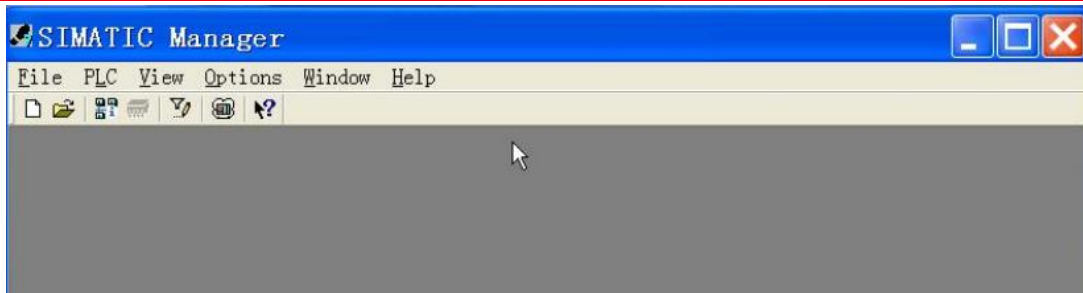

Figure 1
(1) Copy the GSD file with the TEC sensor to the C:\Program Files\Siemens\Step7\S7DATA\GSD directory. Copy the image of the sensor to the directory C:\Program Files\Siemens\Step7\S7DATA\NSBMP (STEP7 is installed on disk C by default).
(2) Double-click the  "SIMATIC Manager" icon to appear as shown in Figure 1.